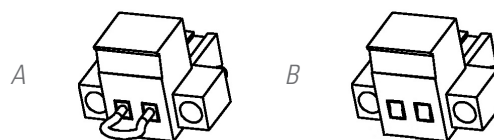

Fig. 10. Connector for external EPO.
- The device is dispatched from the factory with its EPO circuit set to closed (NC) by default. In other words, the UPS will cut the output power supply, emergency power off, when the circuit is opened:
- ☐ Either by removing the female connector from the socket where it is inserted. This connector has a cable connected as a jumper that closes the circuit (see Fig. 10-A).
- ☐ Or by pressing the button external to the device belonging to the user installed between the terminals of the connector (see Fig. 10-B). The connection on the button must be in the normally closed contact (NC), so it will open the circuit when activated.